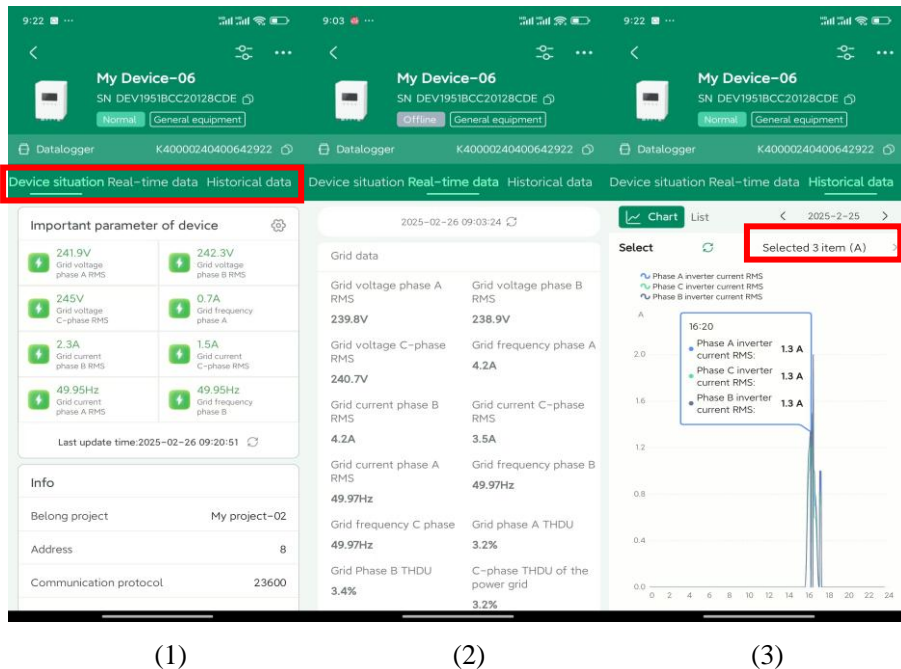

Figure 4.19 APP device selection interface
APP: Enter the device information interface, as shown in Figure 4.19 (1). You can slide the option bar in the box to select different options; Tap "Real-time Data", as shown in Figure 4.19 (2), to view the latest device information (refresh every 5 minutes); Tap "Historical Data", as shown in Figure 4.19 (3), to view the data chart of the selected parameters within 24 hours. Tap "Selected 3 items" to select and switch the data chart to be displayed.